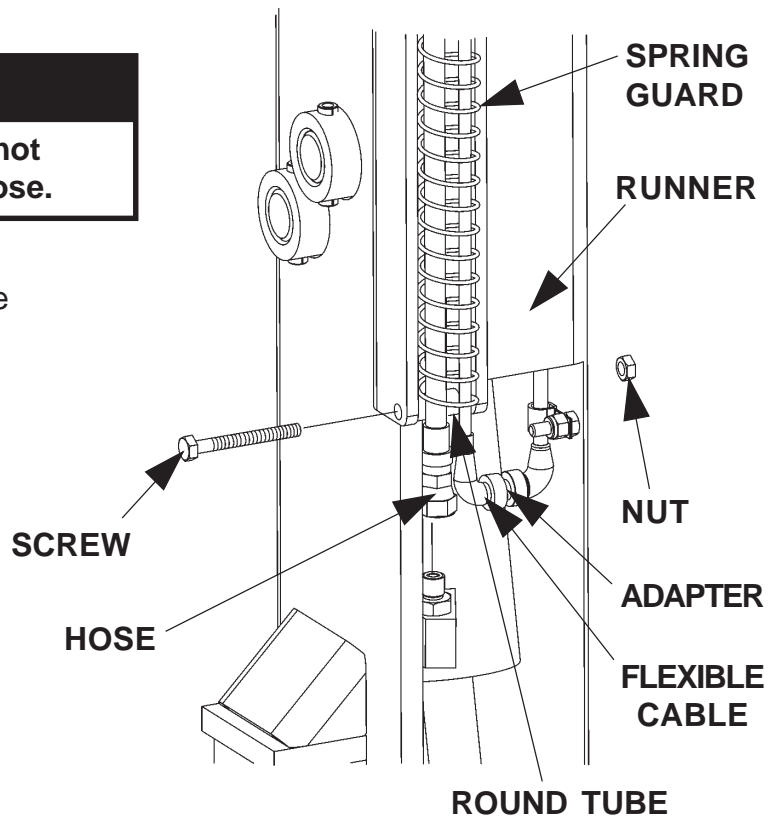

FIG. 13B
19. Place Spring Guard, Flexible Cable (with Adapter), and Hydraulic Hose in channel at bottom of Runner (**FIG. 13B**).
20. Re-connect Hydraulic Hose to Closing Cylinder (**FIG. 13B**).